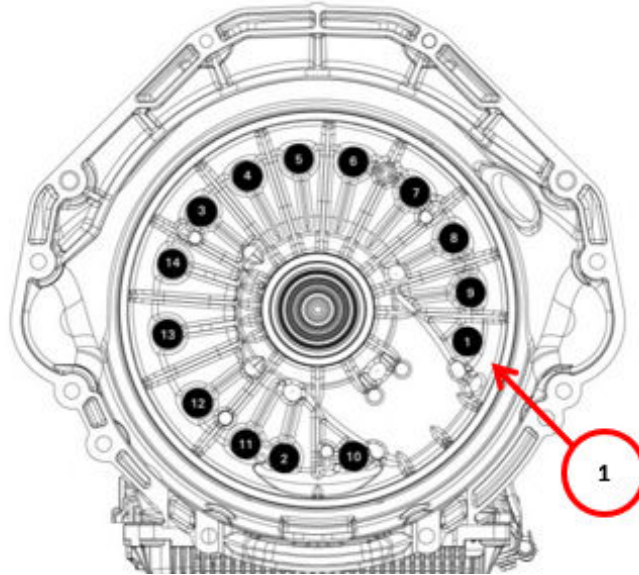

Fig. 15
21. Remove and **DISCARD** the 14 oil pump housing bolts Fig. 15.